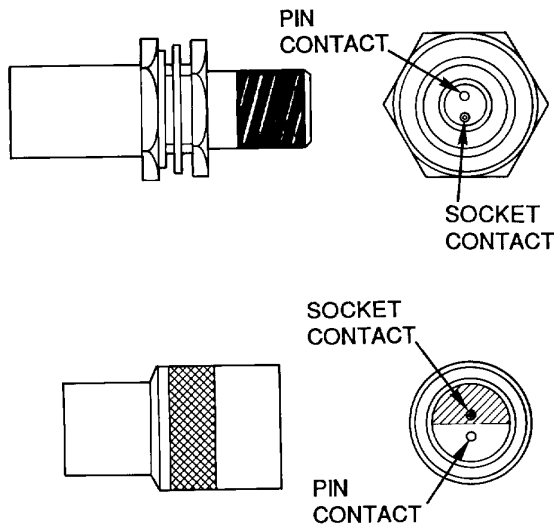

Figure 5. Typical Twin Series Connectors 023005
22. **Description.** These connectors are weatherproof with one pin and one socket contact. These connectors are covered by applicable military specifications (Table 5). Typical twin series connectors are illustrated (Figure 5).